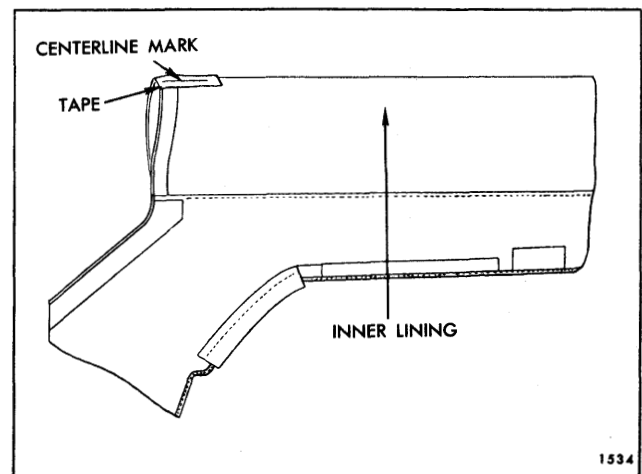

Fig. 6-39—Marking Folding Top Material
4. Fold new top material in half so that inner lining of top material is exposed (Fig. 6-39). Install a 6" piece of tape on inner surface at centerline fold of new top material (Fig. 6-39). Using a pencil, mark approximate centerline of new top material along entire length of tape.